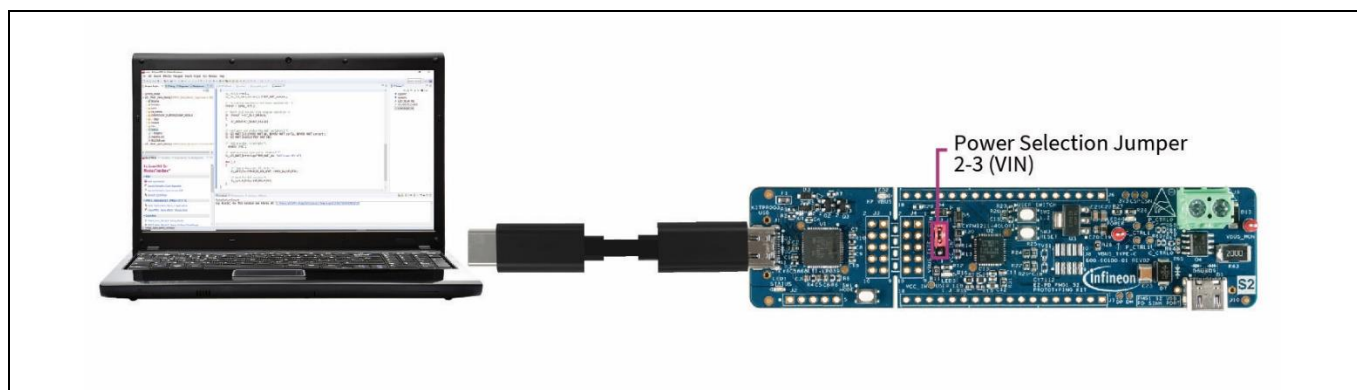

Figure 32 Programming through the KitProg3 interface
KitProg3 is a PSoC™ 5LP-based on-board programming and debugging solution integrated with the PMG1 prototyping kits. You can program and debug the kit without using any separate programming and debug module. Connect the kit to the laptop or PC using the programming connector as shown in Figure 32.
2. Connect the prototyping kit to the host PC through the KitProg3 connector. See Figure 32 for the setup.